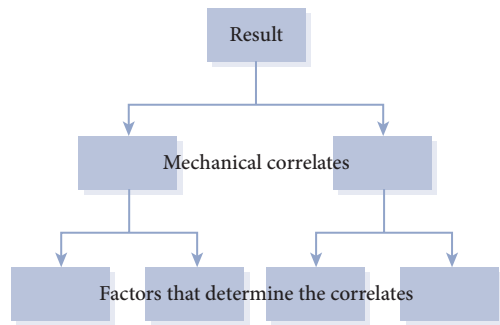

Figure 1.7 The hierarchical model.
The basic idea of a hierarchical model is presented in Figure 1.7. At the very top, you list your performance criterion, preferably in mechanical terms. In the level below, you include all the factors that determine that variable. It is that simple. The only real rules of hierarchical modeling are (1) the factors included in the model should be mechanical quantities, and (2) each of the factors included in the model should be completely determined by those factors that are linked to it from below.⁴ Once you have identified all the factors, you can annotate those that you cannot control (usually by striking through the box). For example,